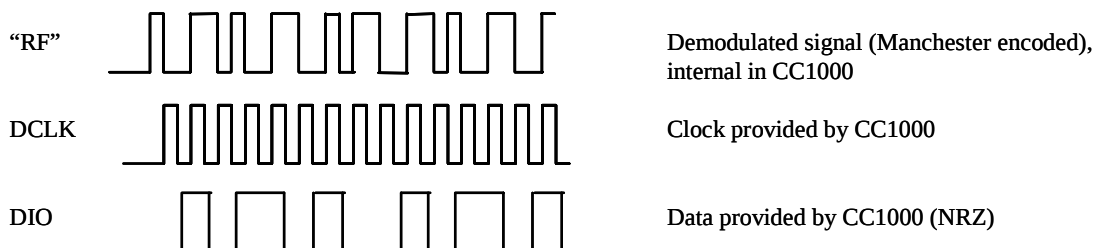

**Figure 7. Synchronous NRZ mode**
**Synchronous NRZ mode.** In transmit mode CC1000 provides the data clock at DCLK, and DIO is used as data input. Data is clocked into CC1000 at the rising edge of DCLK. The data is modulated at RF without encoding. CC1000 can be configured for the data rates 0.6, 1.2, 2.4, 4.8, 9.6, 19.2, 38.4 or 76.8 kbit/s. For 38.4 and 76.8 kbit/s a crystal frequency of 14.7456 MHz must be used. In receive mode CC1000 does the synchronisation and provides received data clock at DCLK and data at DIO. The data should be clocked into the interfacing circuit at the rising edge of DCLK. See Figure 7.